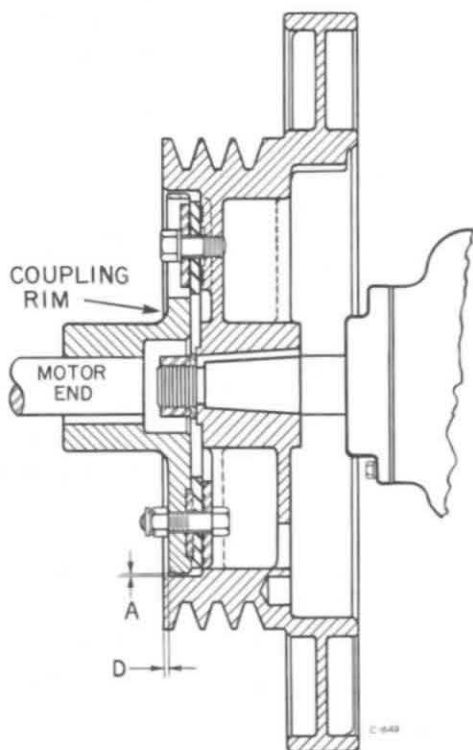

Figure 7-5. Flexible Coupling.
1. Mark a point on the coupling rim and use this point for checking dimensions "A" and "D". See Figure 7-5.